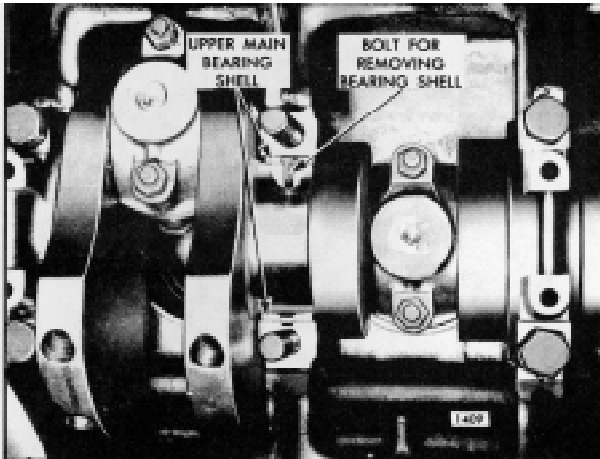

Fig. 3. Removing Upper Main Bearing Shell
- a. To remove all except the rear main bearing shell, insert a 1/4" x 1" bolt with a 1/2" diameter and 1/16" thick head (made from a standard bolt) into the crankshaft journal oil hole. Then revolve the shaft to the right (clockwise) and roll the bearing shell out of position as shown in Fig. 3. The bolt head must not extend beyond the outside diameter of the bearing shell.